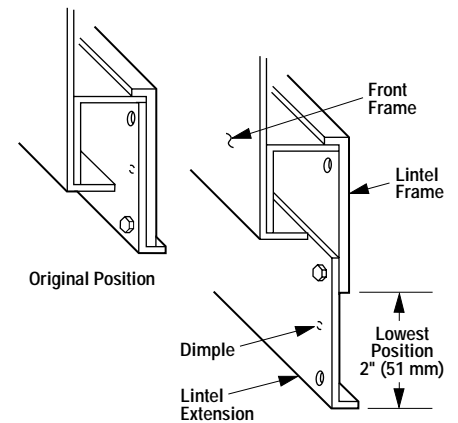

Figure 7
The lintel extension can be lowered a maximum of 2" (51 mm) using a predrilled hole located at the top of the lintel extension. To lower the lintel extension 1" (25 mm), drill a 1/8" (3 mm) hole where the dimple is located. (See *Figure 7*.)
To lower the lintel extension on Model CST-38, remove the two screws from both ends of the lintel extension (located behind the screen assembly). Slide the lintel extension down and align the desired holes in the lintel extension with the holes in the lintel frame. Reattach using the screws previously removed. Repeat this procedure for the lintel extension on the opposite side of the fireplace. (*Figure 7*)
On Model CPF-38 the two (2) side lintel extensions are welded to the end lintel extension. The lintel extension lowers similarly to the CST-38 lintel extension. However, to prevent the end lintel extension from being misshaped, follow the following steps while referring to *Figure 7*.
1. Remove the two (2) screws from one of the side lintel extension, leaving the lintel extension on the other side attached to the lintel frame. Only lower the end of the lintel extension closest to the closed end (refractory wall) of the CPF-38. Aligning the desired holes in the lintel extension with the holes in the lintel frame and reattach using one (1) of the screws previously removed.
2. Remove the two (2) screws from the lintel extension on the other side of the fireplace. Lower the whole lintel extension to the desired holes and reattach using the screws just removed.